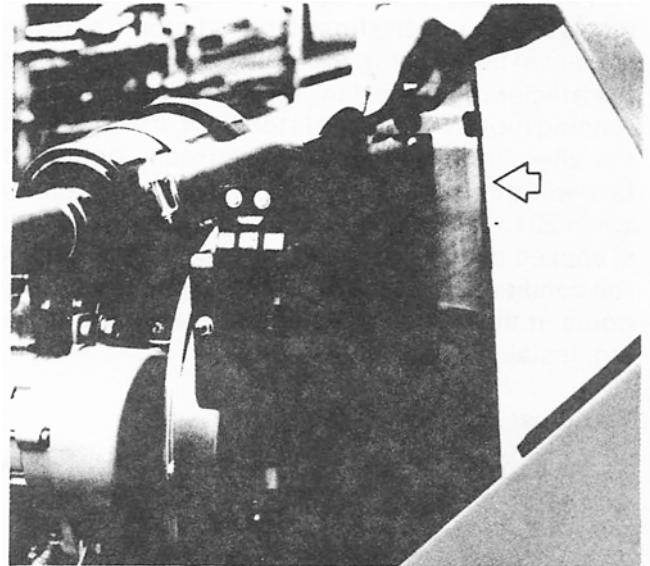

Figure 35 — Radiator Screen
3. Keep the radiator screen clear of chaff or dirt to allow free passage of air (Figure 35).
5. Clean the radiator front screen (Figure 35).